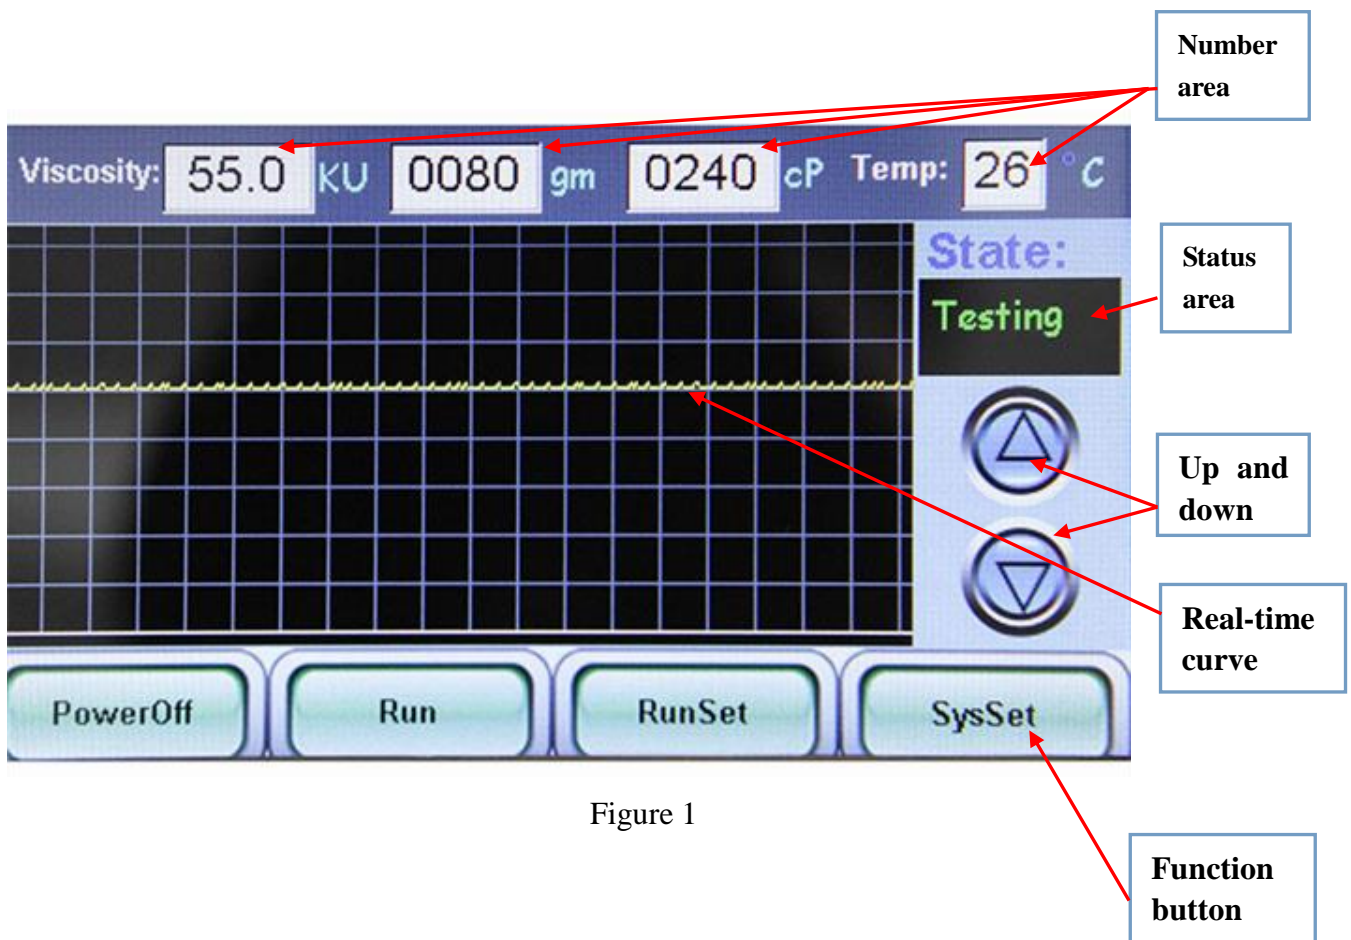

Figure 1
3.5.6 Entering the main interface for the first time, the instrument must be set preferably as shown on Figure 1;